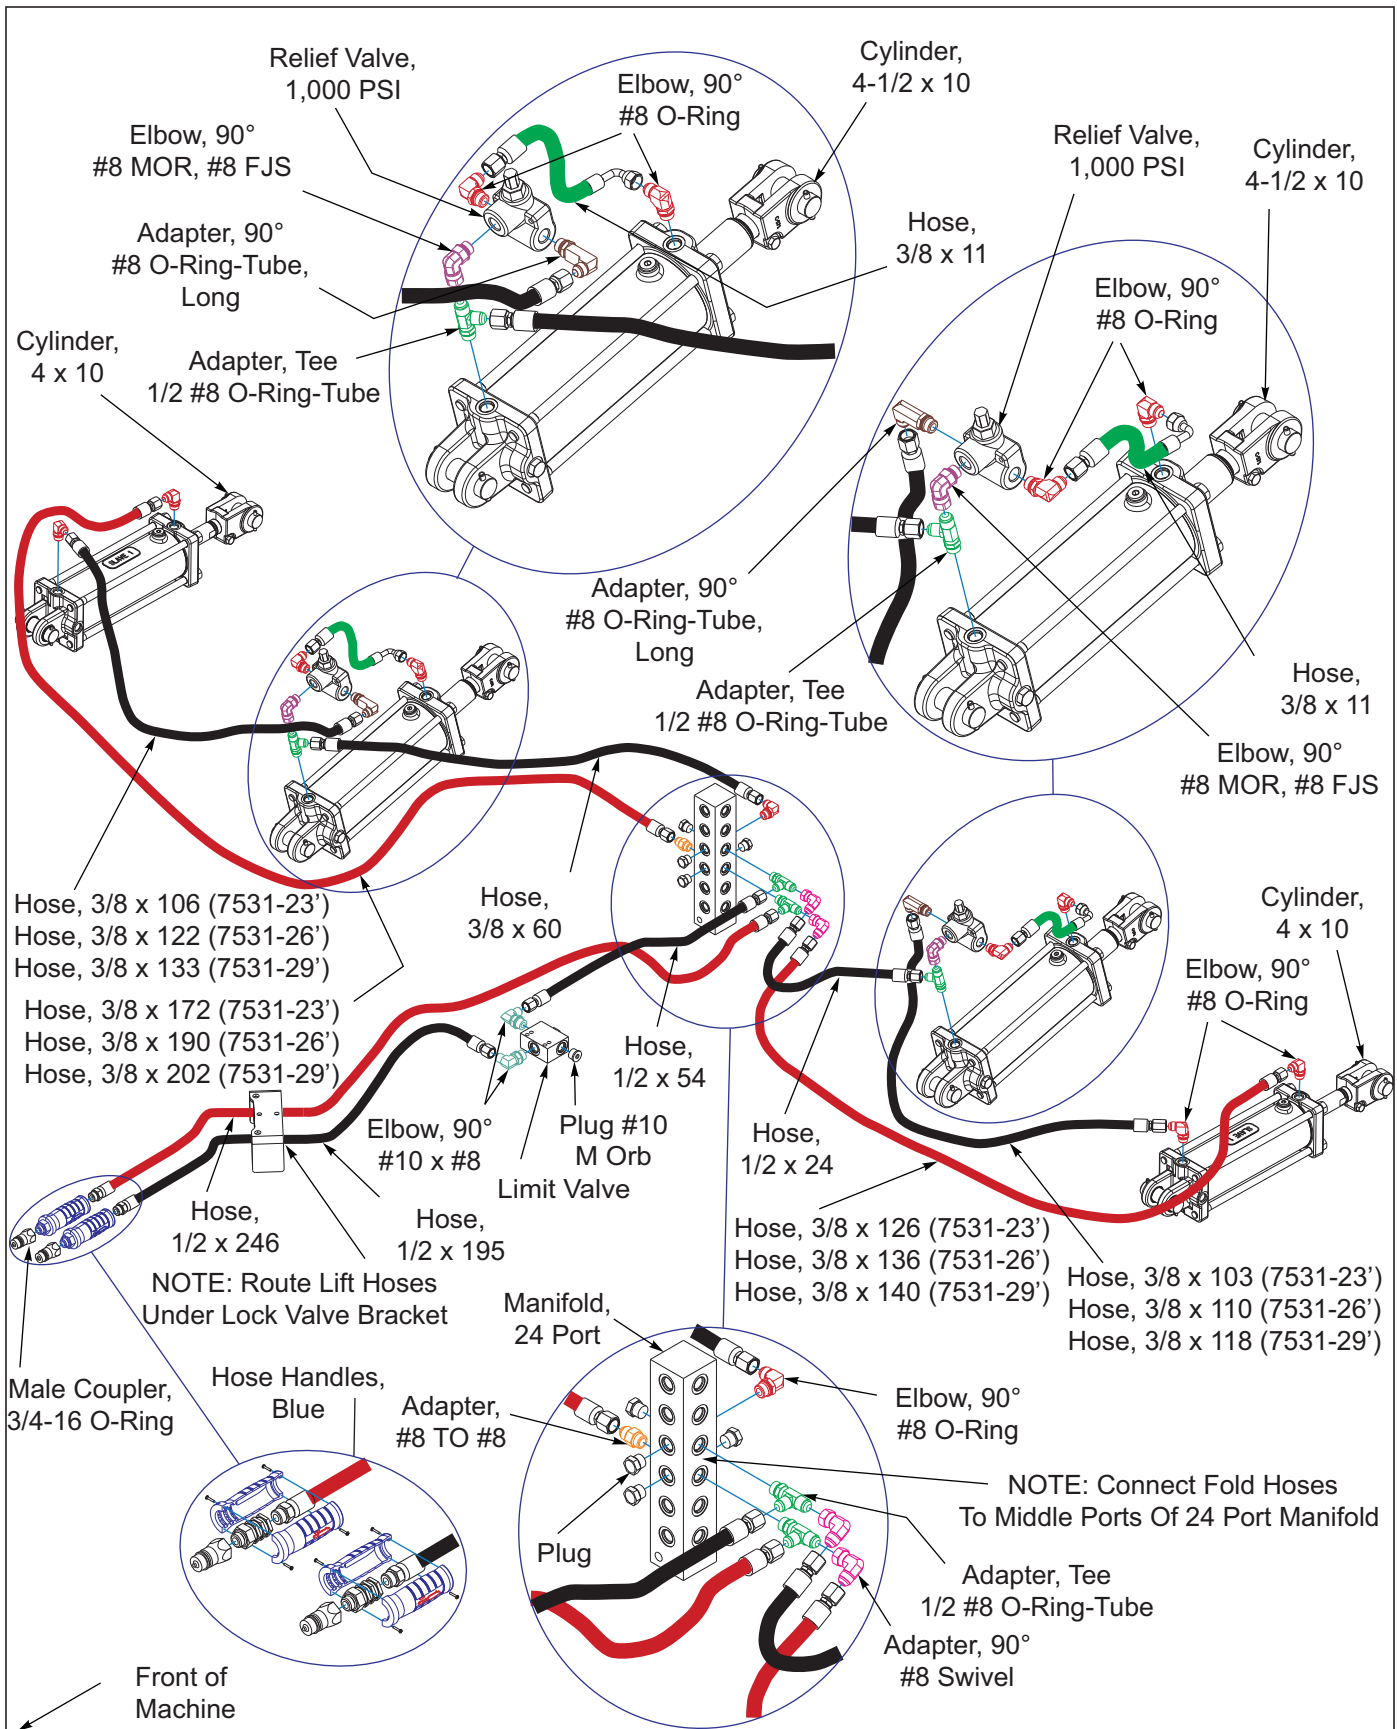
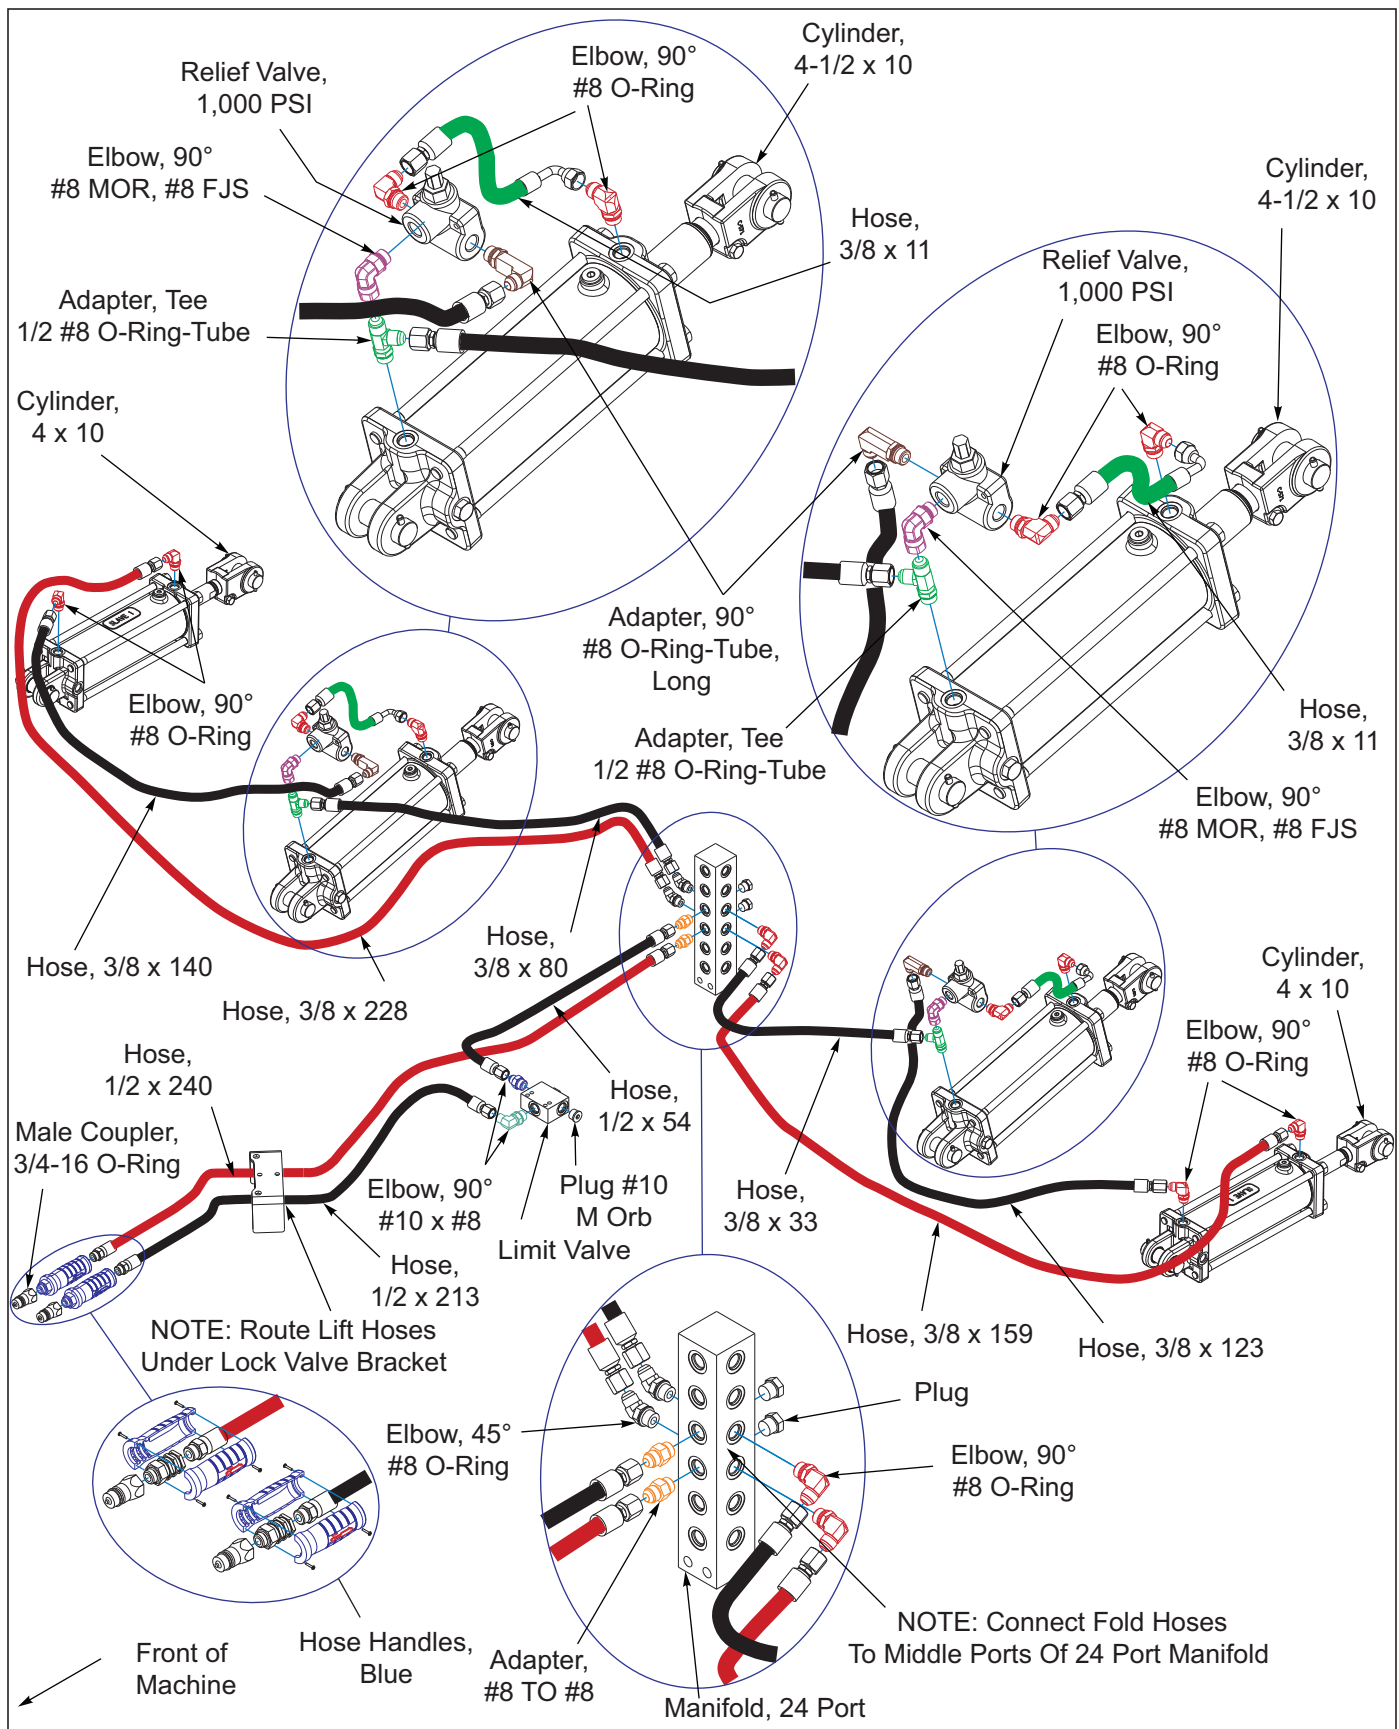
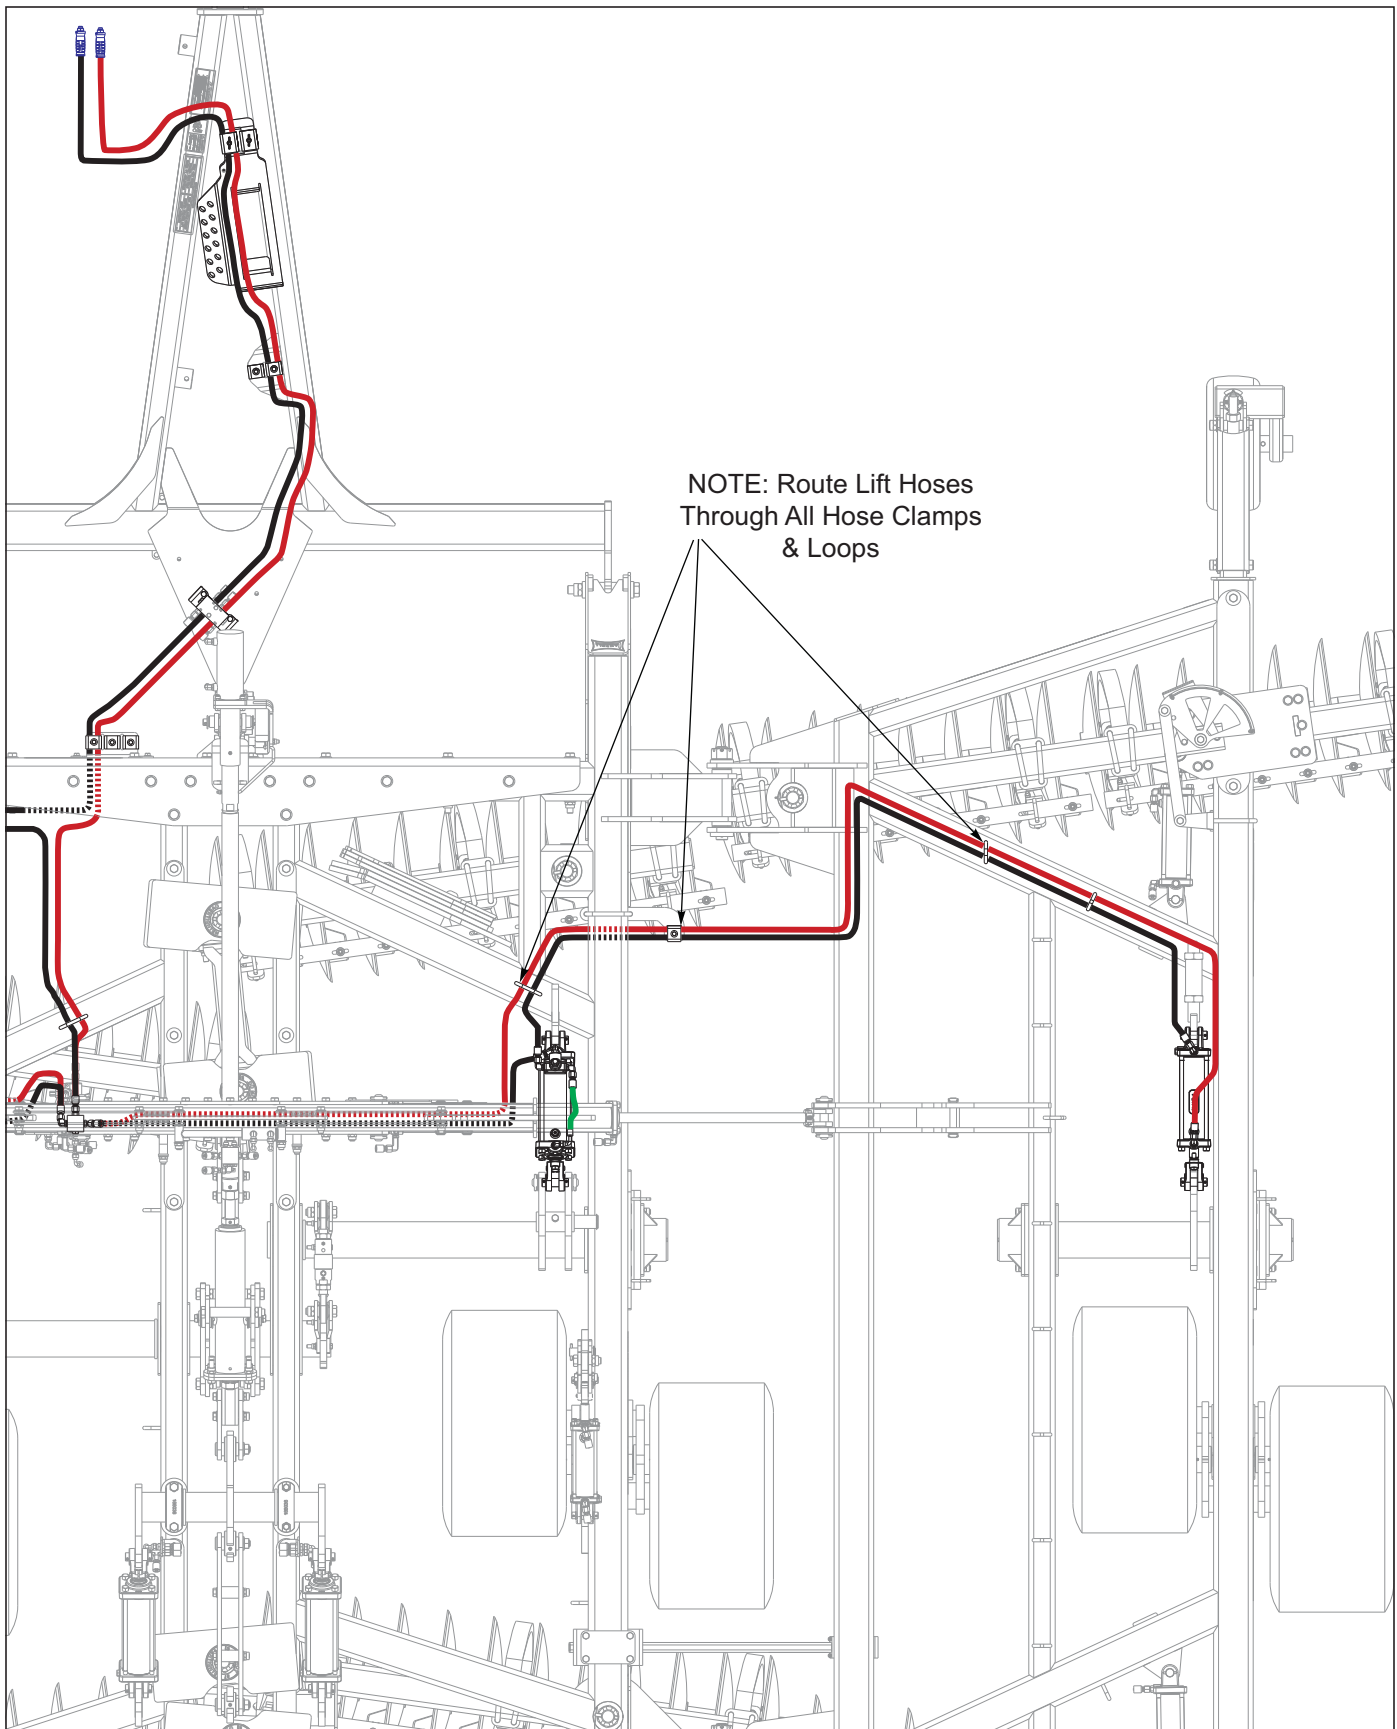

Figure 3-15: Lift Hydraulic Installation 7531-23'-29'
Figure 3-18: Lift Hydraulic Installation 7531-32'/35'
Figure 3-20: Lift Hydraulic Layout 7531-32'/35' RH
Refer to Figures 3-15- 3-20 for lift hydraulic diagrams for 7531-26', 7531-29' and 7531-32'/35' models.
1. Install 90° regular adapter fittings in both rod and base ends of all lift cylinders that are assembled to the frame - except the center frame base end fold fittings **See Figure 3-15** or **See Figure 3-18**.
10. Install lift cylinder hoses, couplers and blue hose handles **See Figure 3-15 through See Figure 3-20**.